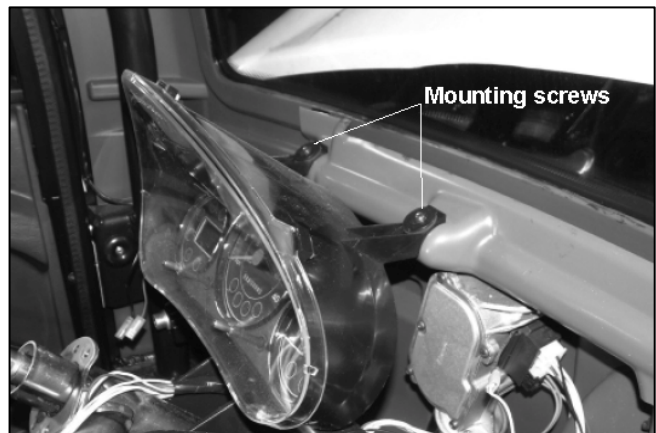

Figure 7-12
2. Remove the two screws from the top of the instrument cluster (Figure 7-12).
4. Secure new instrument cluster using the two mounting screws (Figure 7-12).